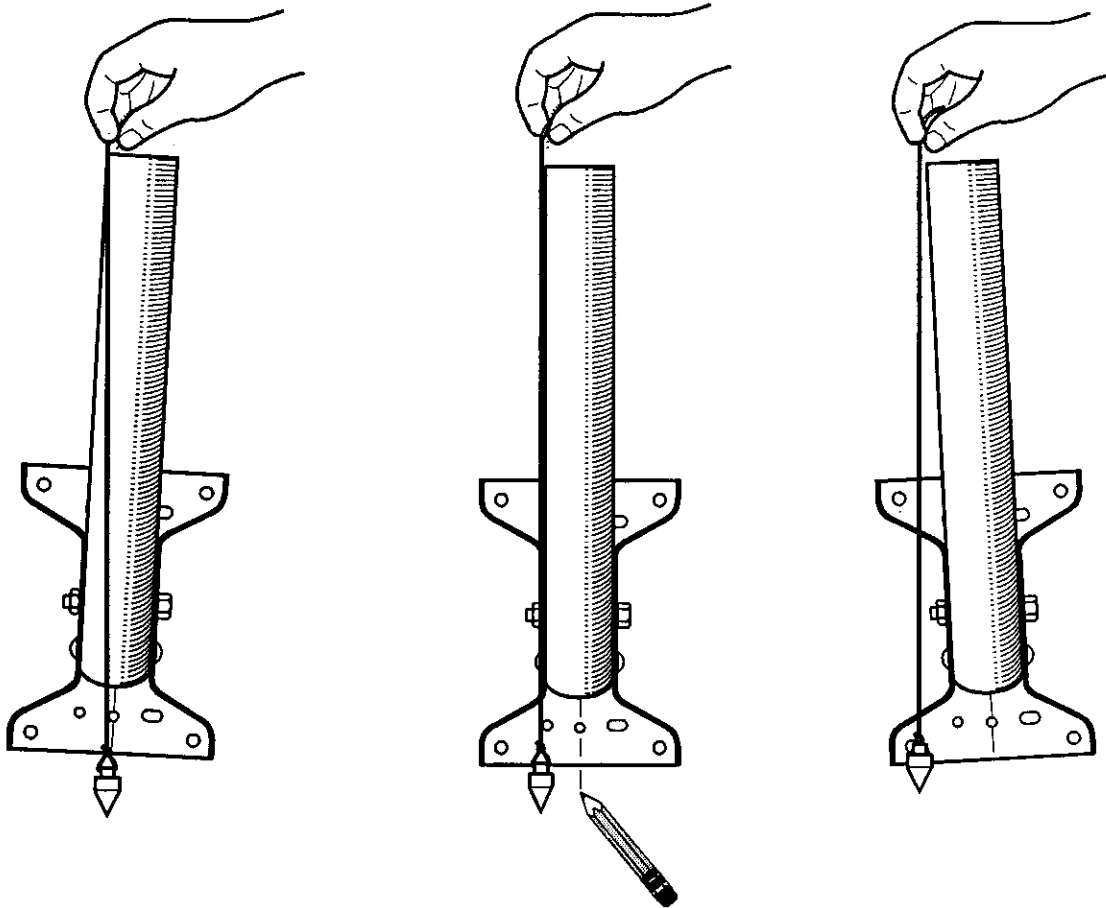

Figure 23, Horizontal Leveling with Plumb Line
1. Hold the string of the plumb line over the top of the mast so it hangs as shown in figure 23.